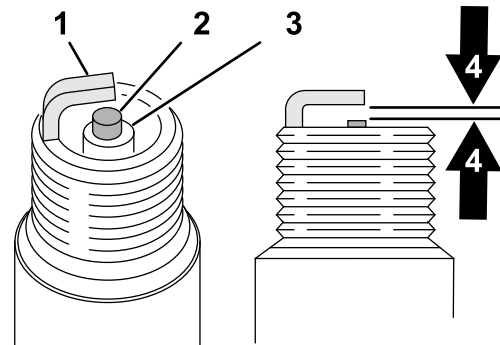

Figure 36
5. Look at the center of the spark plugs (Figure 36). If you see light brown or gray on the insulator, the engine is operating properly. A black coating on the insulator usually means that the air cleaner is dirty.
6. Measure the air gap between the center and side electrode (Figure 36). The air gap should measure 0.76 mm (0.030 inch).